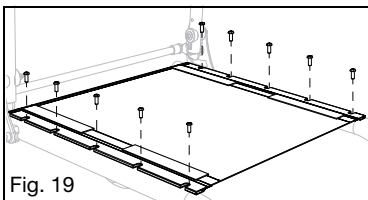

Fig. 19
2. Loosen the Phillips head screws (Fig. 19) on the same side of the seat upholstery as the tension adjustable flap.
6. Retighten the Phillips head screws (Fig. 19).
1. Remove the 5mm Phillips head screws (Fig. 19) from the seat rails on each side of the frame and set aside.
5. Replace the 5mm Phillips head screws (Fig. 19) by partially threading into place. Once all screws have been started, go back and tighten to secure.